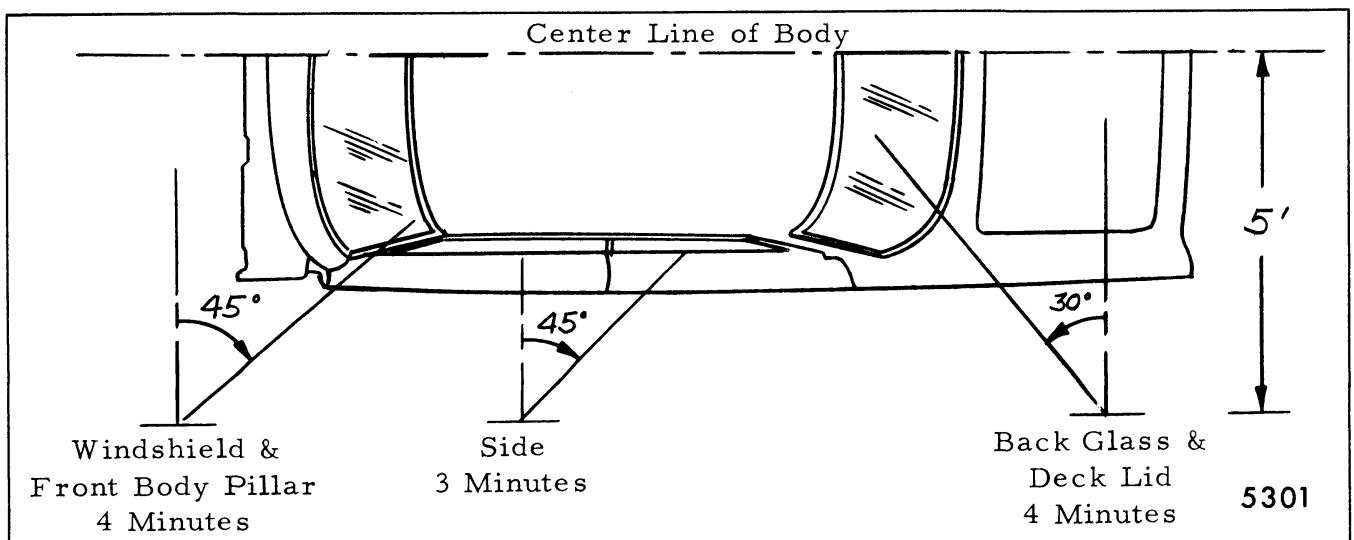

Fig. 1-20-Waterleak Test
It is not necessary to subject an entire vehicle to this test. Depending upon the complaint, specific areas of the body may be spot-tested using only one or a combination of nozzles shown in Fig. 1-20, provided proper nozzle distance and angle to the vehicle is maintained.
5. Nozzle Angle: (See Fig. 1-20)